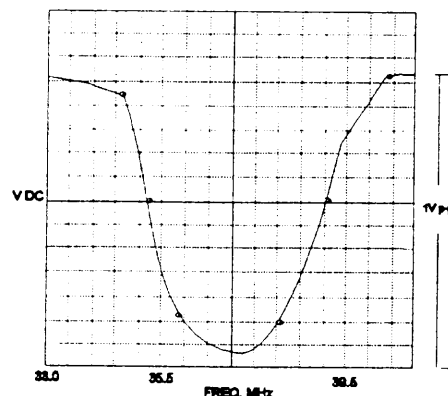

Fig 2.
(see fig. 2)
- 6: Turn T101 to obtain the waveform as in fig. 2.